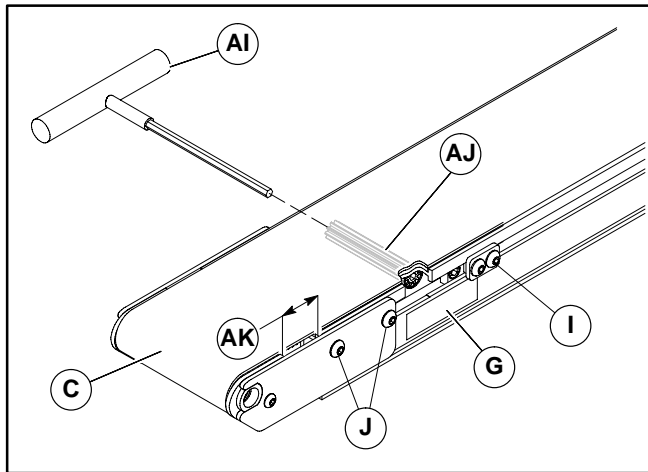

Figure 15
1. Locate tension end (C of Figure 15) of conveyor, identified with a label (G).